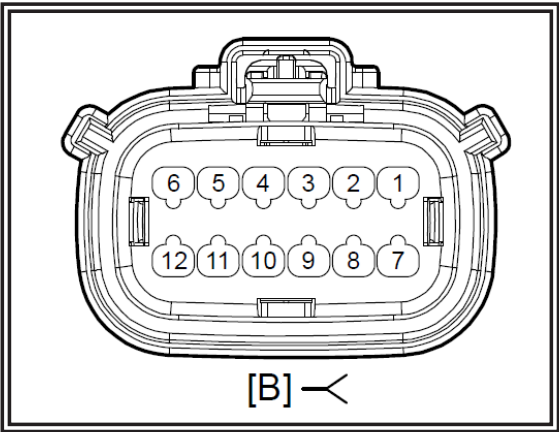

Figure 3 - Molex MX150 12 Position Connector
- Step 10. See Figure 3. Install all terminal ends into new connector. Following Table 1, install all terminals.
- Step 11. Install seal pins (2) in terminals 11 and 12.